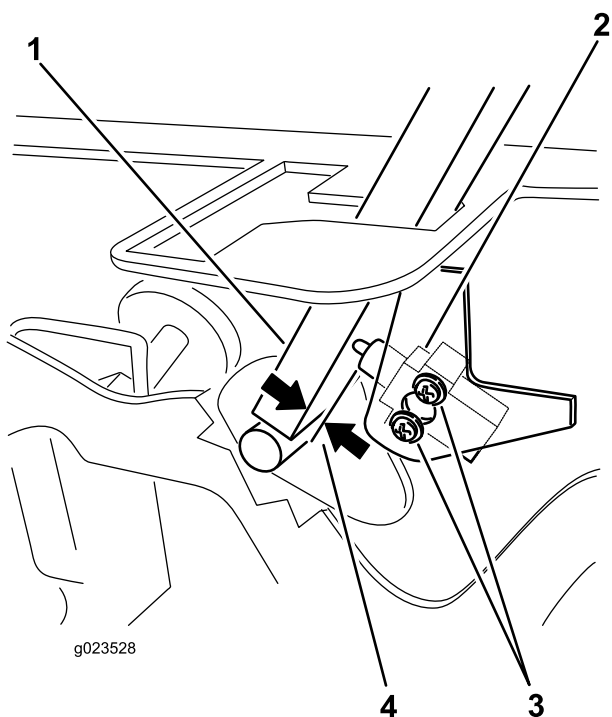

Figure 80
- Loosen the 2 screws securing the interlock switch (Figure 80).
4. Holding the control lever against the frame, move the switch toward the lever until the distance between lever and switch body is 0.015 to 0.045 inch (0.4 to 1 mm) (Figure 80).